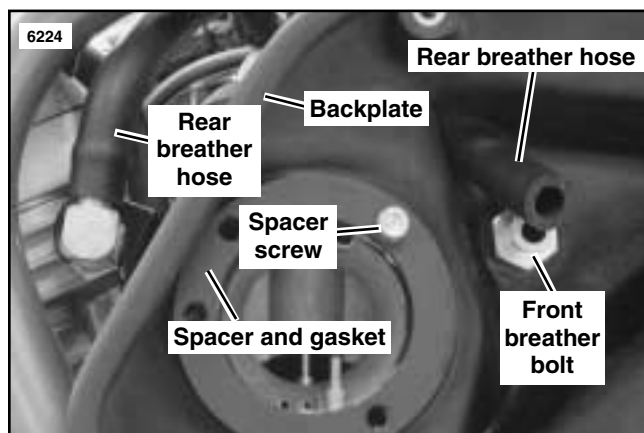

Figure 9. M2 or S3 Stock Air Cleaner Spacer
- b. See Figure 9. Remove spacer screw, spacer and gasket.